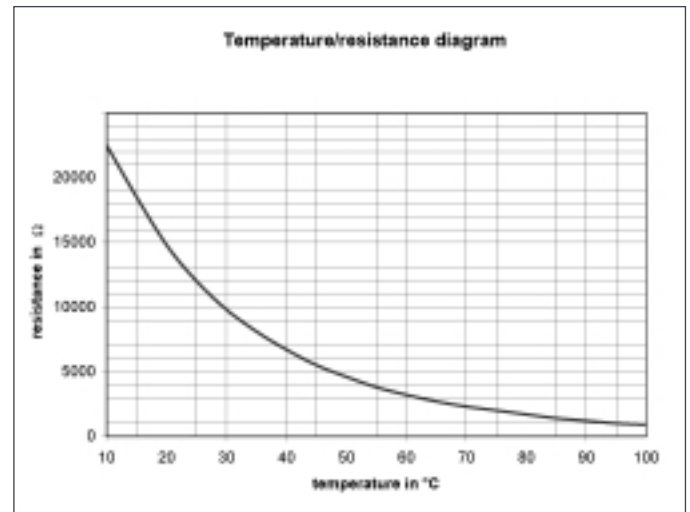

fig. 27 Sensor resistance graph
- Check temperature sensors for resistance values against fig. 27 (humidity on sensors).